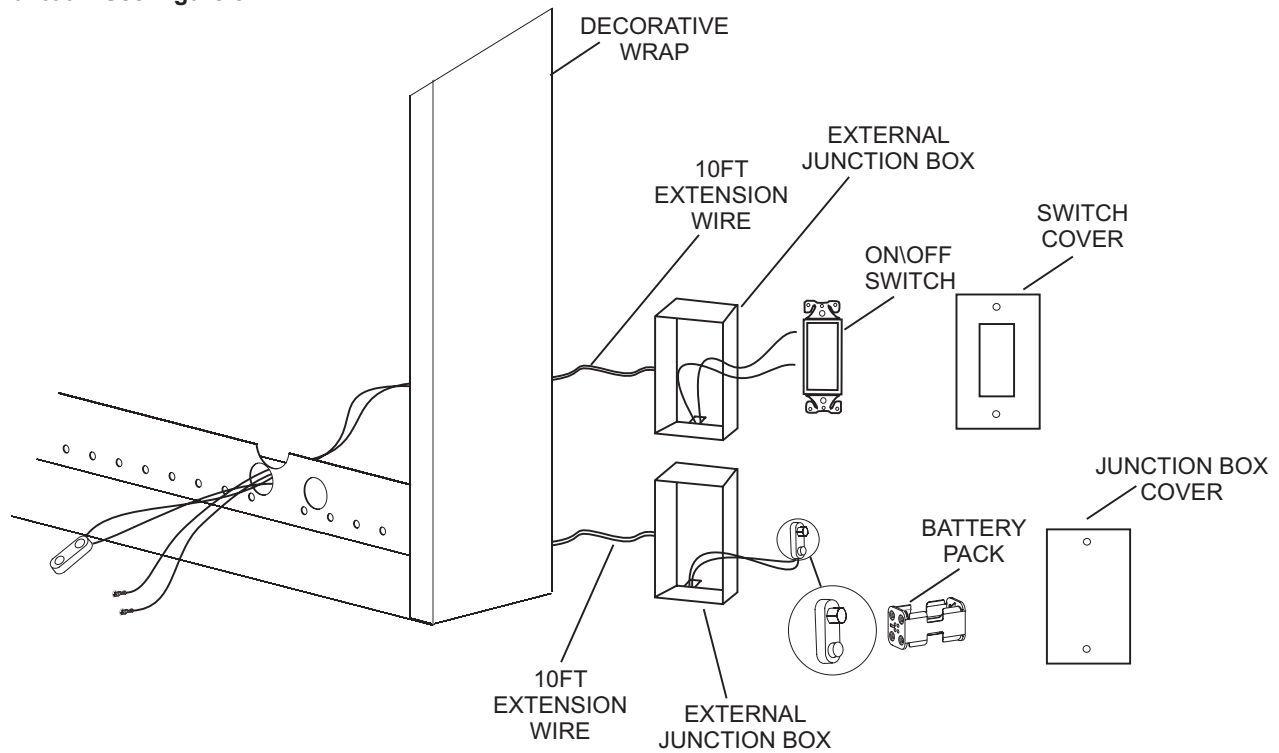

Figure 5
- Run extension wire harness(es) from opening to junction box(es) (not provided) outside of the fireplace. One junction box is for the switch (or other control). The other junction box is for the battery pack and will require a cover. Extension wires are 10-ft in length and must connect to battery pack using the connector end with side walls. Do not extend wires beyond the 10 feet provided as this will cause the controls to malfunction. **See Figure 5.**